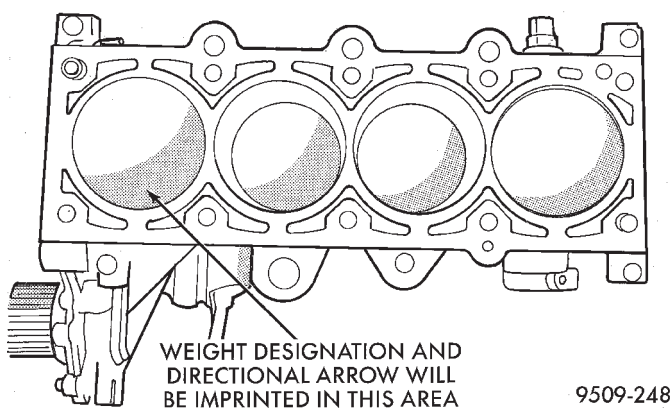

Fig. 75 Piston Markings
- (1) Remove top ridge of cylinder bores with a reliable ridge reamer before removing pistons from cylinder block. **Be sure to keep tops of pistons covered during this operation.** Mark piston with matching cylinder number (Fig. 75).
- (3) Pistons will have a stamping in the approximate location shown in (Fig. 75). These stamps will be either a directional arrow or a weight identification for the assembly. L is for light and H is for heavy. These assemblies should all be the same weight class. Service piston assemblies are marked with a S and can be used with either L or H production assemblies. The weight designation stamps should face toward the timing belt side of the engine.
- (4) Pistons and connecting rods must be removed from top of cylinder block. Rotate crankshaft so that each connecting rod is centered in cylinder bore.
- (5) Remove connecting rod cap bolts **Do not use old bolts if reinstalling connecting rod.** Push each piston and rod assembly out of cylinder bore.
(4) The weight stamp designation L or H will be in the front half of the piston should face toward the front of the engine for SOHC engine. The arrow should face toward the front of the engine for DOHC engine (Fig. 75).
(5) Rotate crankshaft so that the connecting rod journal is on the center of the cylinder bore. Insert